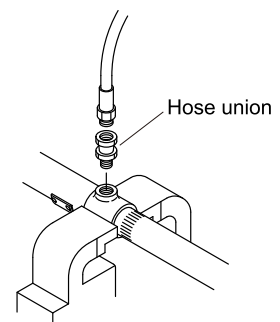

Fig. 2
2. Fix the pump with a vise and connect a prepared material hose to its discharge port. When this is done, it is recommended to purchase and attach a hose union to between the pump and hose. (Fig. 2)